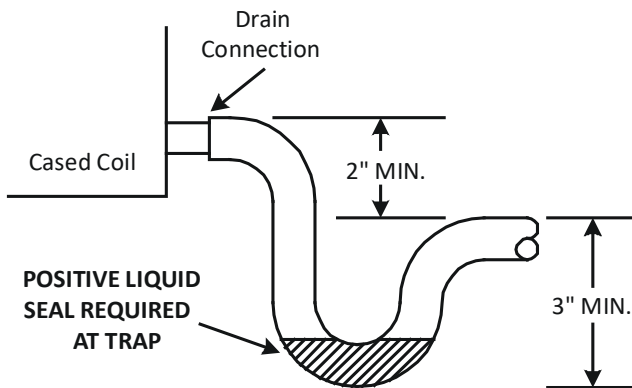

Figure 10
- Insulate drain lines located inside the building or above a finished living space to prevent sweating. The installation must include a "P" style trap that is located as close as is practical to the evaporator coil. See Figure 10 for details of a typical condensate line "P" trap.